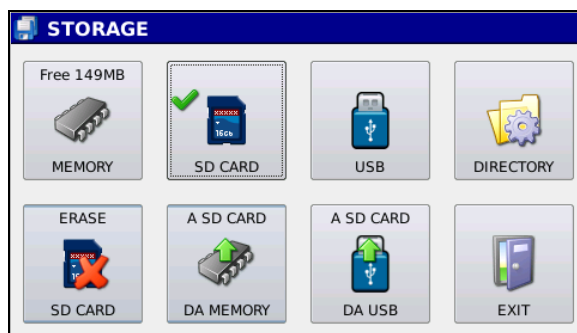

Fig. 4.5: Storage screen after selection of the  $\mu$ SDcard as working memory.
4.2 Press  to select  $\mu$ SDcard as default memory. If the card is not present, the message  $\mu$ SDcard NOT PRESENT will appear. If the memory card is properly installed, the screen will appear as in Fig. 4.5,